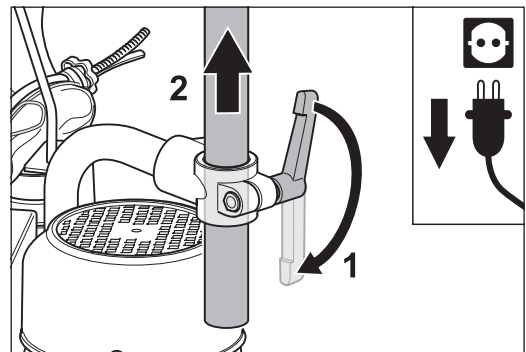

Fig. 18 Undoing the clamping lever at the pipe bend (1) and removing the extension (2).
- 4 Undo the clamping lever at the front end of the pipe bend and pull the extension upward out of the bracket (fig. 18). Put the extension aside.